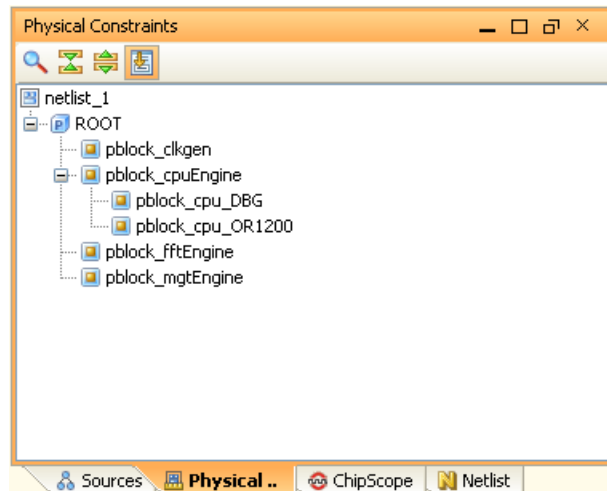

Figure 7-5: Physical Constraints View with ROOT Selected
1. Select either the ROOT Pblock or any Pblock in the Physical Constraints view. Figure 7-5, page 224 shows a selected ROOT Pblock.